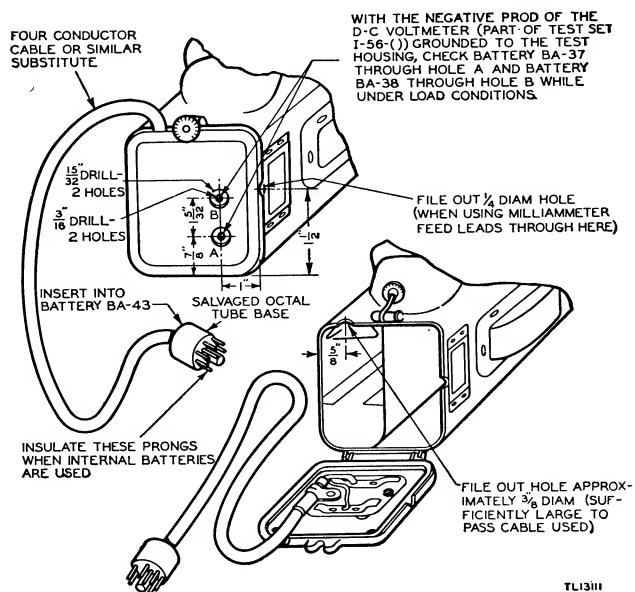

Figure 76. Location of holes in bottom cover.
d. Locate and file a $\frac{3}{8}$ -inch hole and a $\frac{1}{4}$ -inch hole in the bottom cover and bottom of case as shown in figure 76.
points A and B as shown in figures 76 and 77. Care should be taken not to drill through the battery contact clips. Do not perform this operation on models equipped with the bottom cover with jacks for ex-
ternal use. To check voltage under load on these models, connect the meter test prods to the proper contacts of the plug used to connect an external battery. (See fig. 76.)
f. Remove the two screws holding the battery contact board to the bottom cover, remove the battery contact board, and enlarge holes A and B in the cover using a $1\frac{5}{32}$ -inch drill. (See figs. 76 and 77.) For reference purposes, apply name tabs as shown in figure 77.